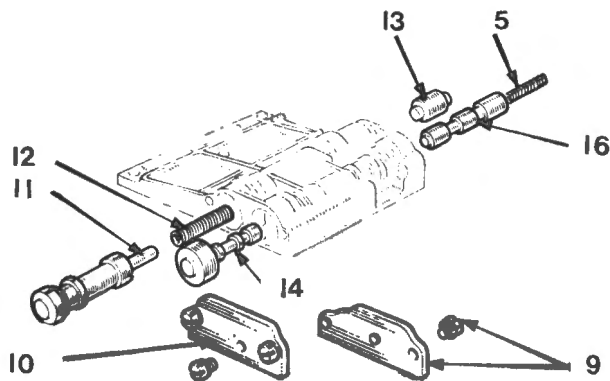

Fig. M-49
- 9 Remove the front end cover 2.5-3.5 Nm (20-30 lb.f.in.). Sequence Fig. M-49.